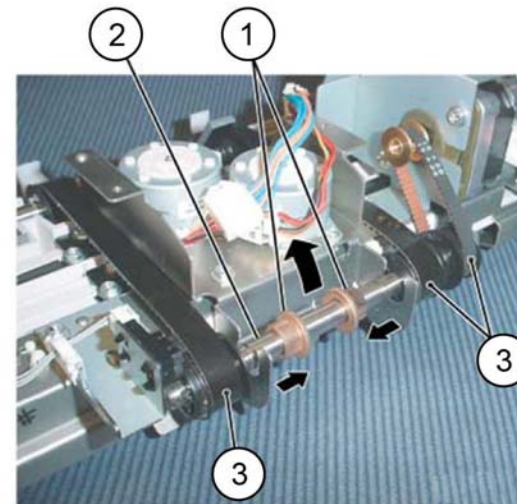

Figure 3 Eject shaft removal
4. Remove the eject shaft from the front/rear tamper motor assembly, Figure 3:
- a. Move the bearings (1) in the direction of the arrow.
- b. Remove the eject shaft (2) in the direction of the arrow.
- c. Remove the belts (3) from the pulley.